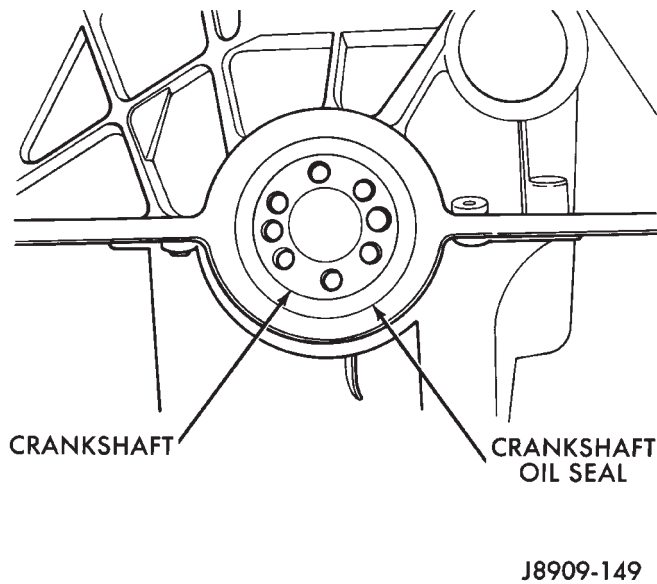

Fig. 66 Replacement of Rear Crankshaft Oil Seal
(1) Remove the flywheel or converter drive plate. Discard the old bolts.
(2) Pry out the seal from around the crankshaft flange, making sure not to scratch or nick the crankshaft (Fig. 66).